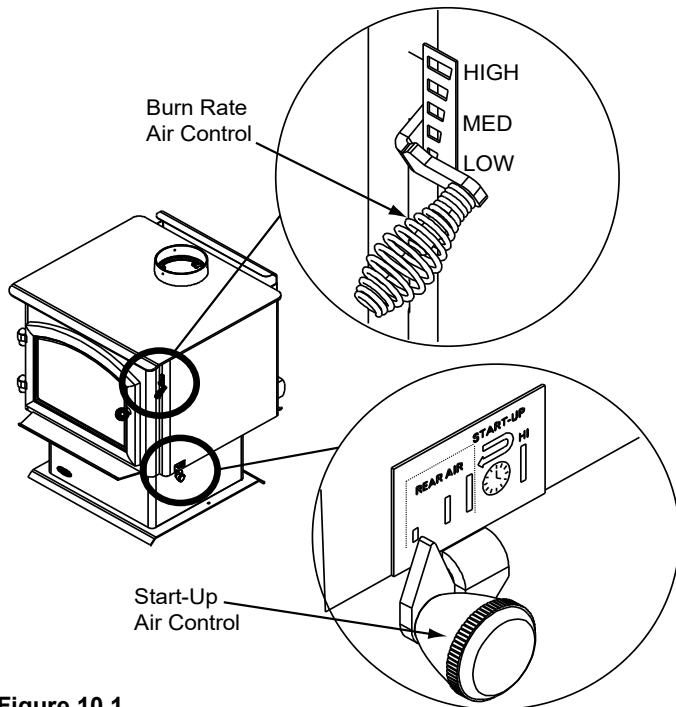
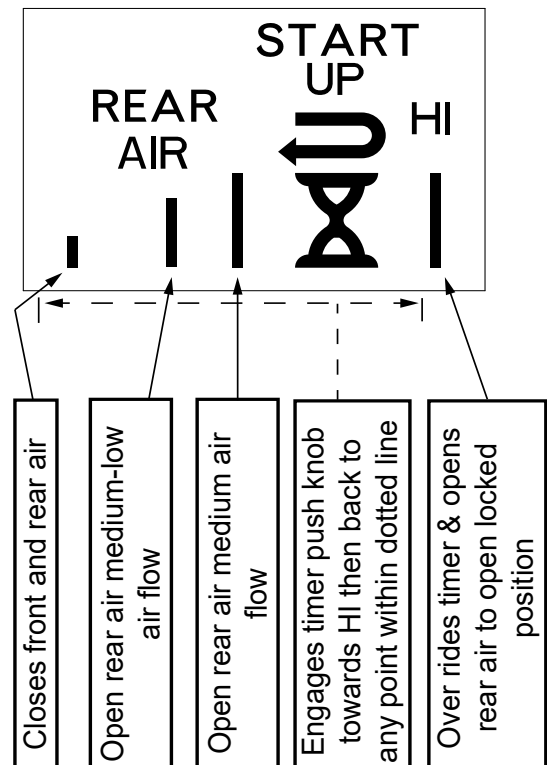

Figure 10.1
Figure 10.2
The next stage of burning, the secondary stage, is the period when the wood gives off flammable gases which burn above the fuel with bright flames. During this stage of burning it is very important that the flames be maintained and not allowed to go out. This will ensure the cleanest possible fire. If the flames tend to go out, it is set too low for your burning conditions. The air control located at the upper right hand corner is used to adjust for burn rates. This is called the Burn Rate Air Control (Figure 10.1).
This air supply enters at the upper front of the firebox, near the top of the glass door. This preheated air supplies the necessary fresh oxygen to mix with the unburned gases, helping to create second, third and fourth combustions. This air is regulated by the Burn Rate Air Control. When the control is moved all the way up it is on the High setting and when moved all the way down it is on the Low setting (Figure 10.1).
To engage the Automatic Combustion Control (ACC) timer system push the lever towards the back of the appliance to the "HI" position, then pull forwards towards the front of the appliance until the knob stops. The timer will slowly close in about 25 minutes. Use this feature when reloading fuel or if you want more air supplied to the fire (Figures 10.1 and Figure 10.2).
- Then activate the ACC timer system by pushing the knob all the way back toward the appliance to “HI” then pull forwards towards the front of the appliance until the knob stops (**Figure 10.1 on page 10**).